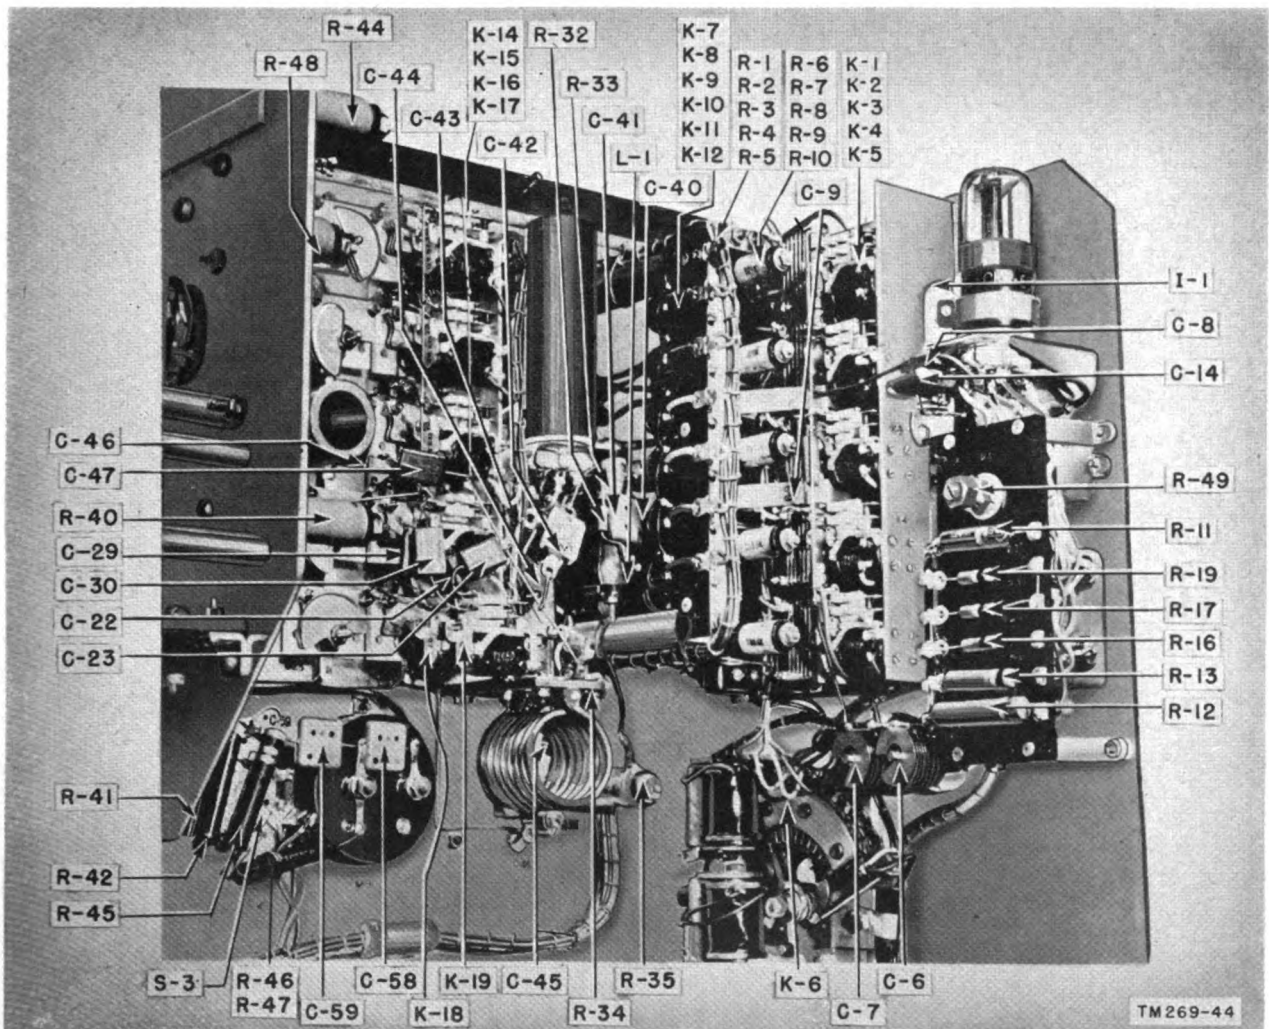

Figure 46. Transmitter, rear right-hand corner, parts identified.
Note. If the modulator plate current exceeds 220 ma (scale reading 0.55) when the meter switch is in position 2, turn the control potentiometer R-49 (fig. 46) counterclockwise until the meter reads 200 ma (scale reading 0.5).
- (6) Adjust trimming capacitors C-6 and C-7 (fig. 46) for maximum amplitude of signal in the stethoscope. Make sure that the screw driver slots of C-6 and C-7 are kept in the same relative positions. Then slowly turn AUDIO CHANNEL 1 screw driver adjustment back and forth as a check of the maximum amplitude. Leave the adjustment in the maximum amplitude position.
- (7) Tighten the shaft locknut, making sure while tightening that the intensity of the sound does not decrease.
- (8) Turn the SELECTOR SWITCH on the control box back to the RF position, and press the RESET button.
- (9) Repeat step (1). Dial 2 on the SELECTOR DIAL. Turn the FREQ. SELECTOR switch on the test set to position 2. Repeat step (5). Then adjust the screw driver adjustment for AUDIO CHANNEL 2 on the transmitter panel until the tone heard in the stethoscope reaches a maximum intensity. Tighten the shaft locknut, making sure that the intensity of the sound does not decrease. Repeat step (8).
- (10) Repeat the procedure in step (9) for audio channels 3, 4, and 5. Make sure